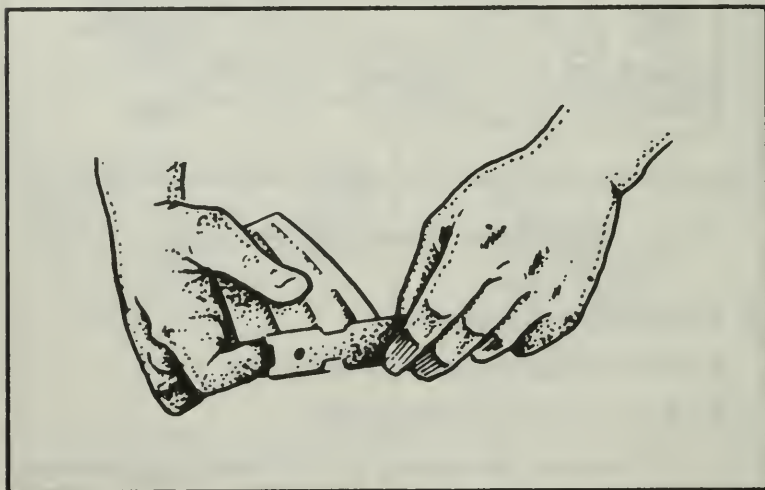

Figure 88. Removing the base of the magazine.
- b. Remove the base (Figure 88).